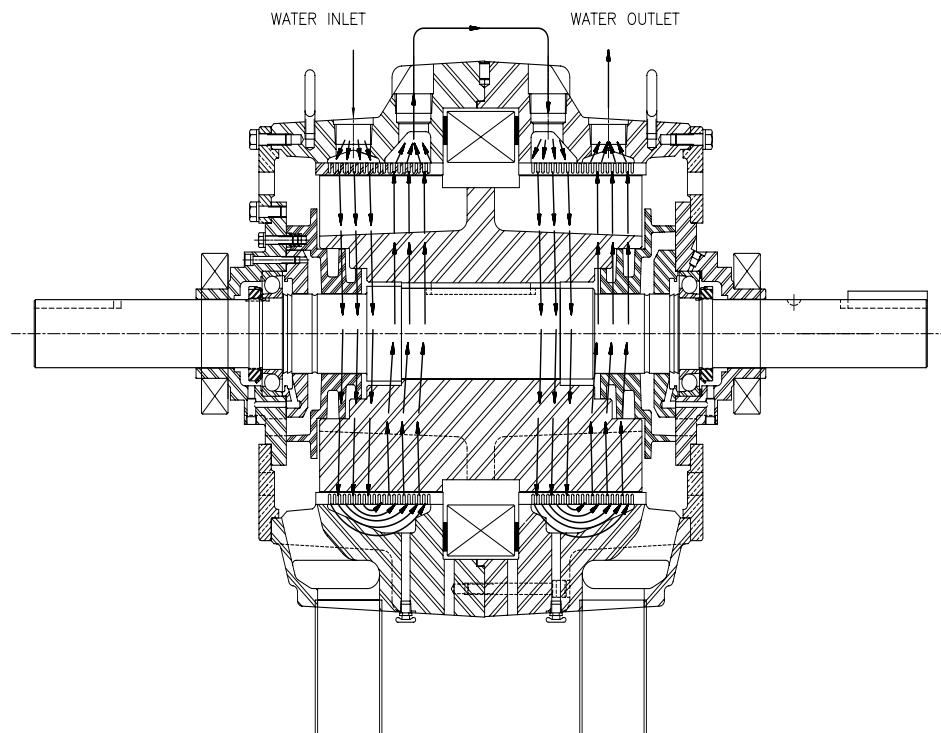

Figure 2.5 - Coolant Flow in Dry Gap Eddy Current Dynamometer
A unit of this type is referred to as Dry Gap (DG) since the coolant does not enter the air gap of the absorbing section (refer to Figure 2.5).